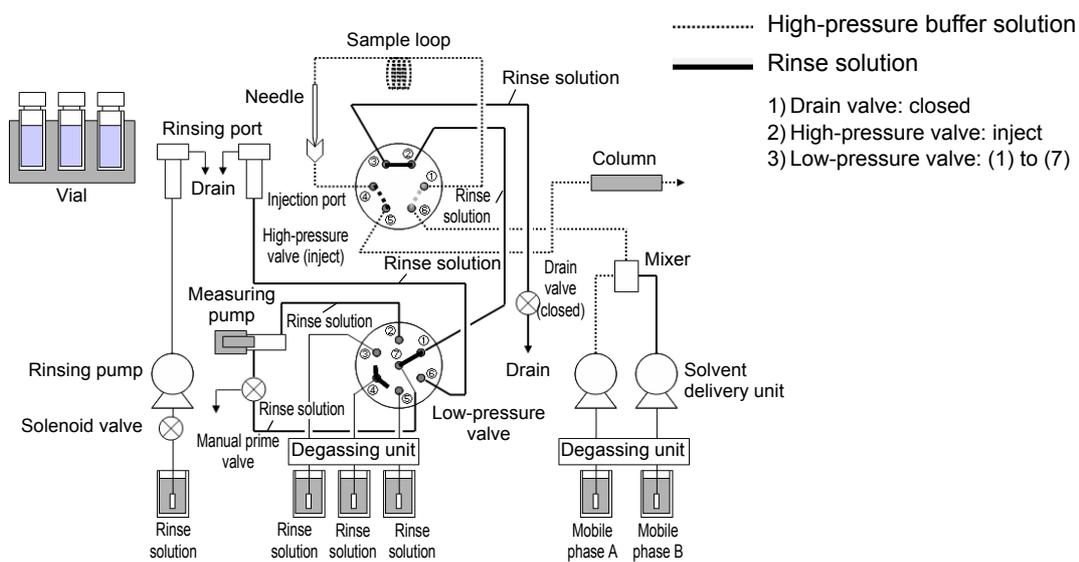
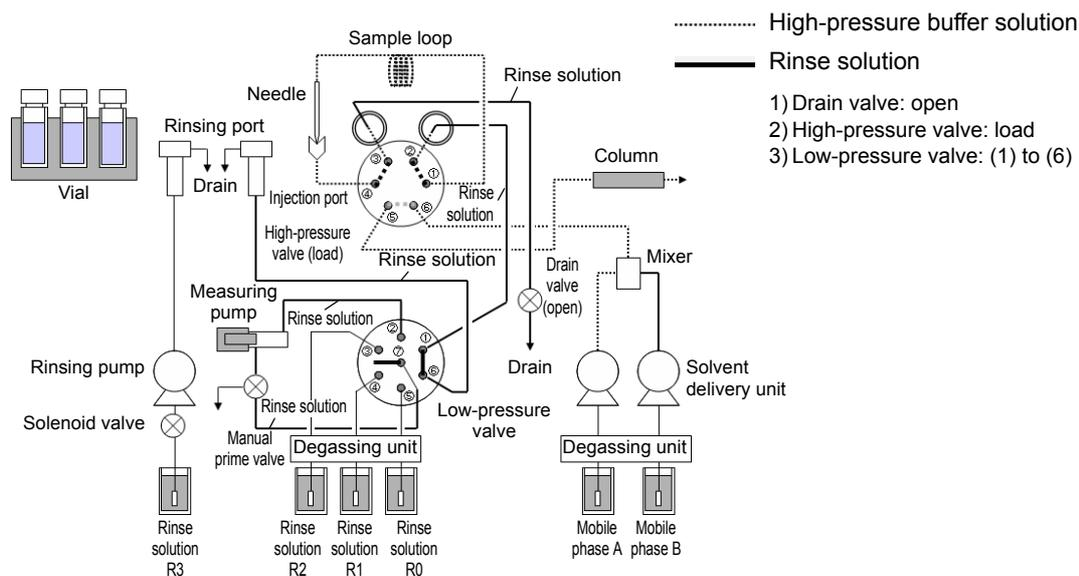

Fig. 3.3
Fig. 3.4
- When sample is injected, the flow lines shown with solid lines in Fig. 3.3 are filled with rinse solution. Those shown with dashed lines are filled with mobile phase. The high-pressure valve rotates before measuring sample as shown in Fig. 3.4 and squeezes mobile phase, which is compressed under high pressure, from high-pressure valve port Nos. 4 and 5 as well as Nos. 1 and 6. Depending on the pumping pressure, rinse solution and mobile phase may be mixed in the  in the figure, which may result in salt deposition.